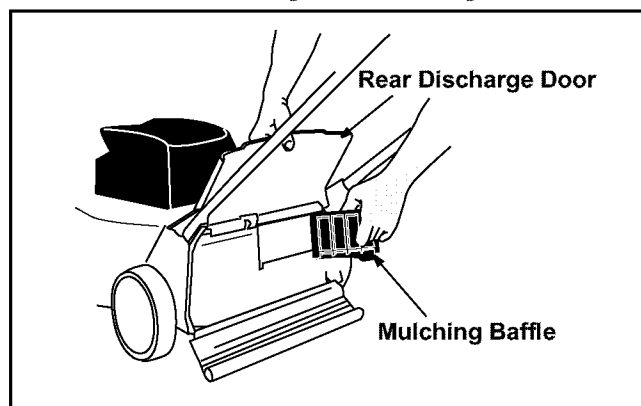

Figure 7
- Lift the rear discharge door on the mower and remove the mulching baffle. See Figure 7.